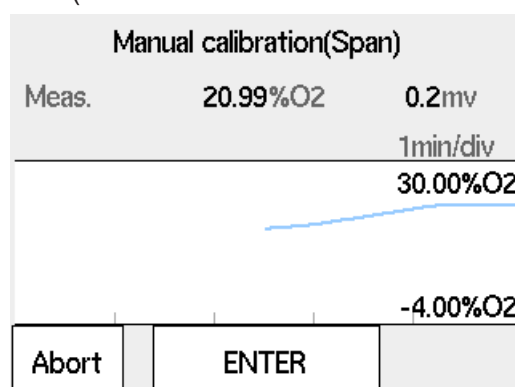

Figure 7.19 Trend during Span gas calib.
- (4) Selecting "Start calibration" displays the trend graph of the oxygen concentration being measured (Figure 7.19) on screen. Wait for the reading to stabilize around 21% by monitoring the graph and the sensor electromotive force. At this point, calibration is not yet executed. It is acceptable for the reading to deviate from 21%.